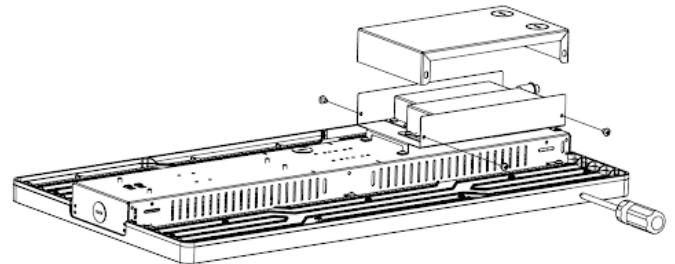

Fig. 6
8. Place the cover of the emergency LED driver junction box back in place and tighten the 4 screws on the side (Fig. 6).